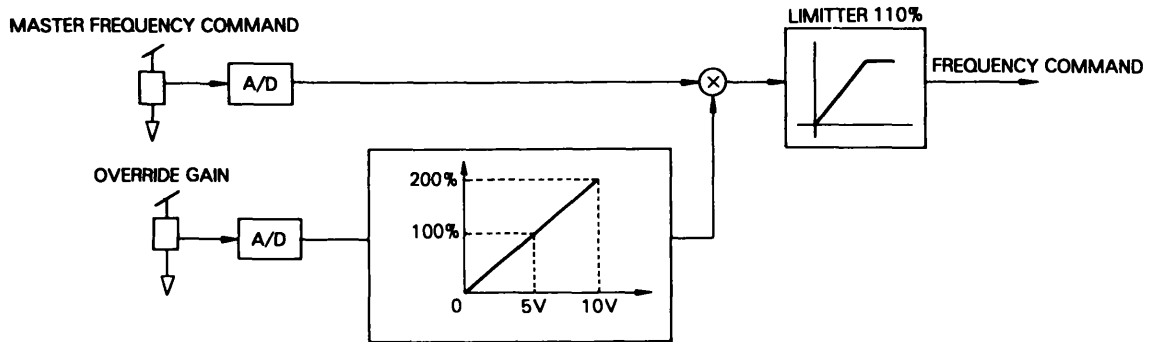

Fig. 11 Block Diagram of Override
**Close:** Override is carried out as shown in Fig. 11. The override gain is given by an auxiliary frequency command (0 to +10 V/0 to 200%).